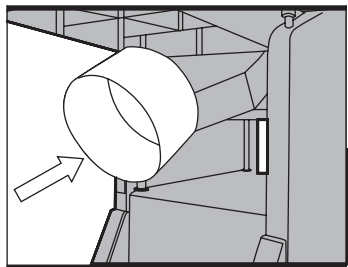

Fig 17
12) Finally, fit the extraction port adapter (E) by simply sliding it over the extraction port as in Fig17.